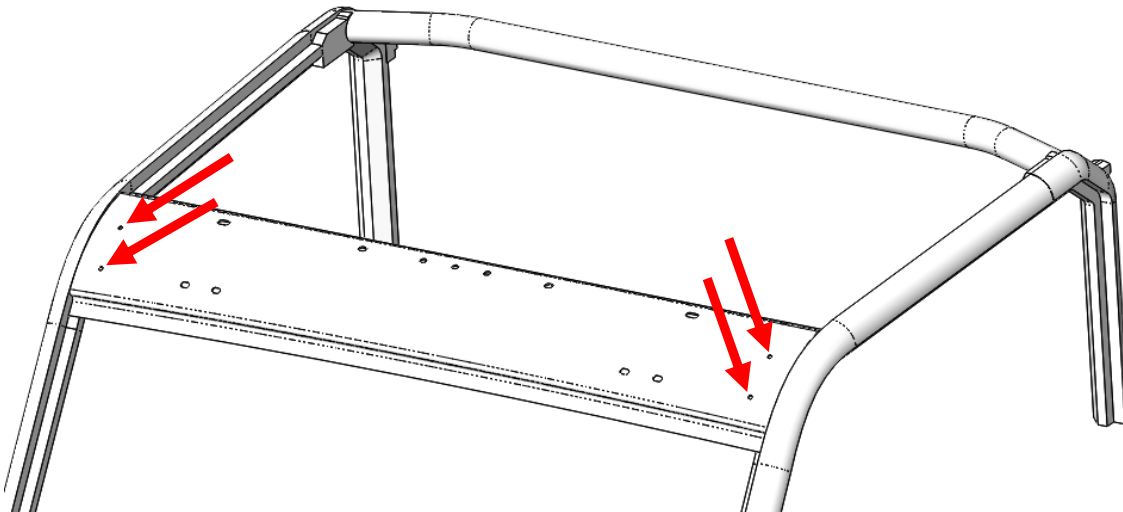
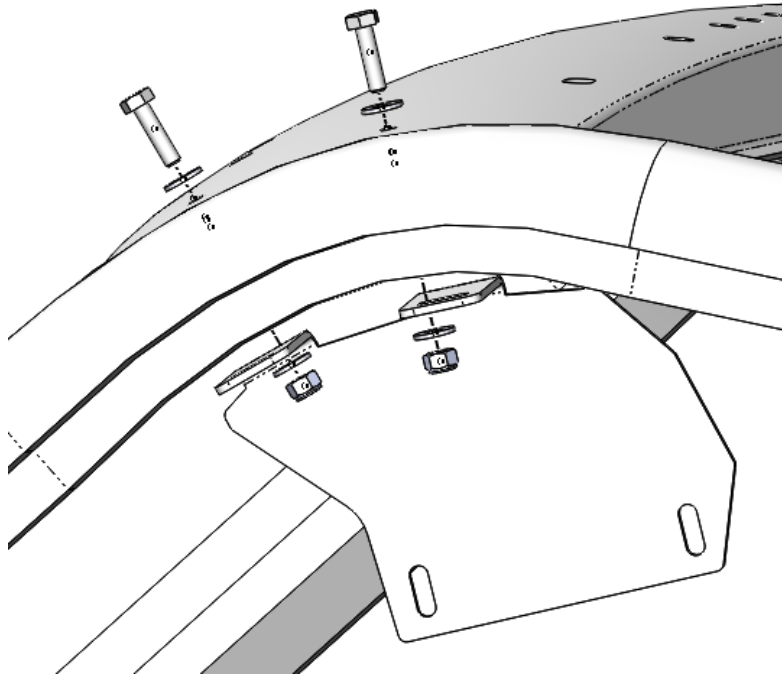

Figure 14: *Audio Mini* bracket mounting locations.
Figure 15: Mounting the *Audio Mini* brackets. Driver side shown. (Passenger side similar)
11. Align the *Audio Mini* mounting brackets with the holes shown in Figure 14. Reusing the factory bracket bolts and nuts, mount the *Audio Mini* brackets and loosely tighten the nuts to allow for adjustment of the *Audio Mini* placement. Verify correct orientation of the mounting brackets. See Figure 15.